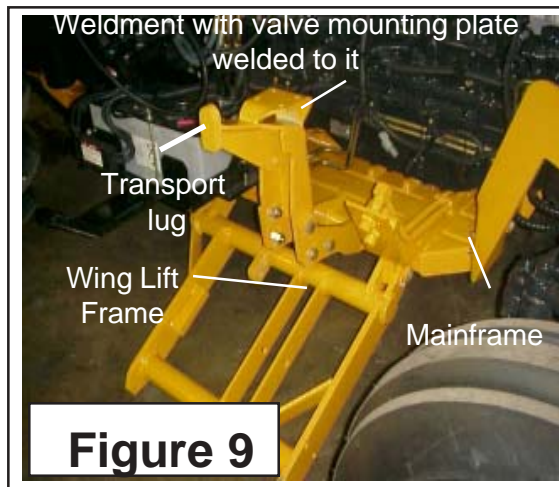

Figure 9
14. Prepare Tandem Pump Fittings DO NOT remove any caps or plugs on hydraulic hoses or connections until you are connecting them, this will keep dirt out. The Tandem Pump will need to be prepared for connecting the hoses. There are fittings that must be changed. The Fittings in the tandem pump should already be installed when you receive it from the factory (See Figure 7). The Pressure Out Port to LH Wing from outer Tandem half of pump straight out fitting will need to be change to a 90 degree elbow fitting (See Figure 7). The Two large caps on the tank suction ports will need to be replaced with two elbow fittings and hose barbs (See Figure 7, 8 & 9). Coat the fittings that screw into pumps and tank with a pipe sealer (NOT Teflon Tape), do not put excess sealer on OD of fittings and none on ID of fittings (See Figure 7). Install the elbow fitting into the pressure port of the LH Motor Pump (outer pump on tandem pump) with the supplied elbow (See Figure 9)
15. Connect Pump Case Drain To Tank. On the Right Hand side of the tandem pump there will be two small elbows, these are the case drains for the pumps. On the side of the tank and above these elbows there will be two small plugs screwed into tank. Remove these plugs and install the pipe thread end of the two small hose after coating the threads with pipe sealer. Connect the other end of the hose to the elbows on the side of the pumps. NOTE: Only the Tandem pump will have case drains, the smaller pump used to power the hydraulic cylinder system will not use a case drain. (See Figure 9 & 11)
16. The small pump used to supply the cylinder hydraulic system will have a short hose that connects to the small pump and to the tank suction port that is in the tank exclusively for the small pump. This hose needs to be cut to fit, do not install with any kinks in hose. (See Figure 6 & 7) which shows these ports. Make certain the Elbow (pressure port of outer tandem pump (See Figure 9) is installed and tightened pointing to the rear of the pump.